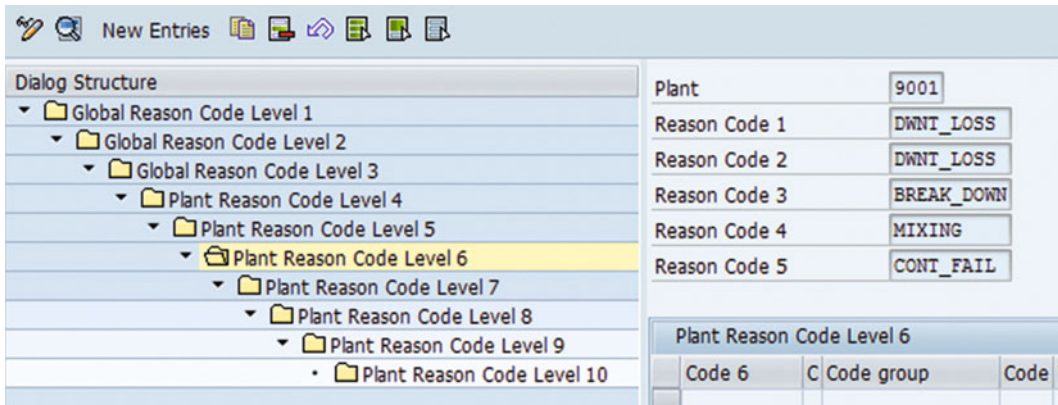

Figure 3-56. Configure reason code for all levels
8. Refer to Figure 3-56 for reason codes configured up to level 5.